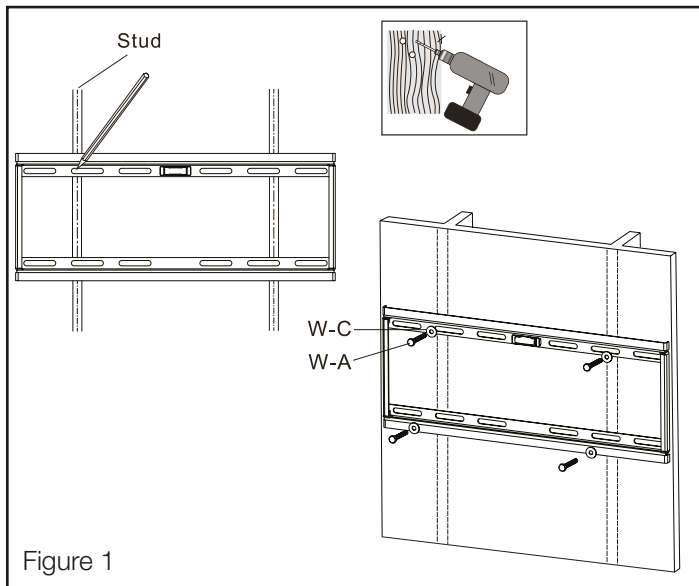

Figure 1
2. Mark a minimum of 4 fixing holes over stud centres using the Wall Plate as a guide - position 2 at either end of the Wall Plate (see Figure 1). Ensure plate is level.